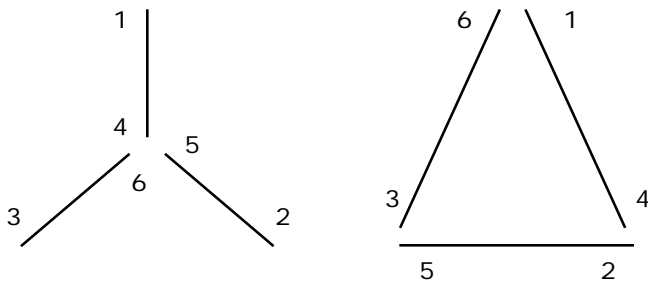

Figure 1
Before we get started, lets review how a typical six lead, three phase motor's windings are connected to incoming power. The six lead stator is easiest to grasp and understanding how it is wired is important to our discussion of several starting techniques. Single voltage motors can be designed for either Wye (Y) or Delta connection. Dual (and tri) voltage motors can be designed to utilize a Wye connection for high voltage and a Delta connection for low voltage. Figure 1 below illustrates these two connection schemes.